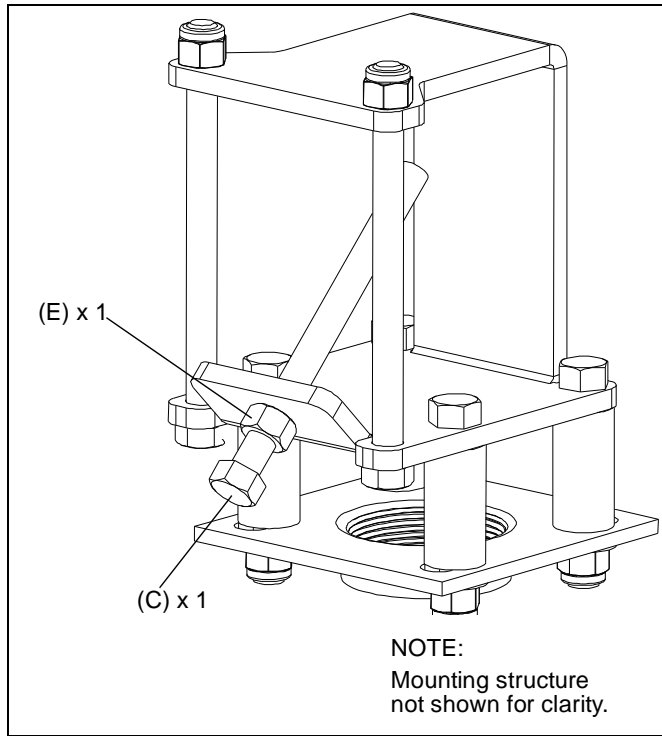

Figure 4
NOTE: The 3/8-16 hex nut (E) remains outside hole. (See Figure 4)